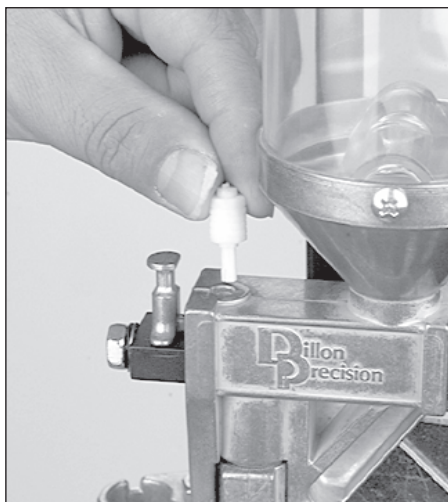

FIG 202
b) Small powder bar – FIG 202 The retaining plug has a short end and a long end. If the small powder bar is installed: